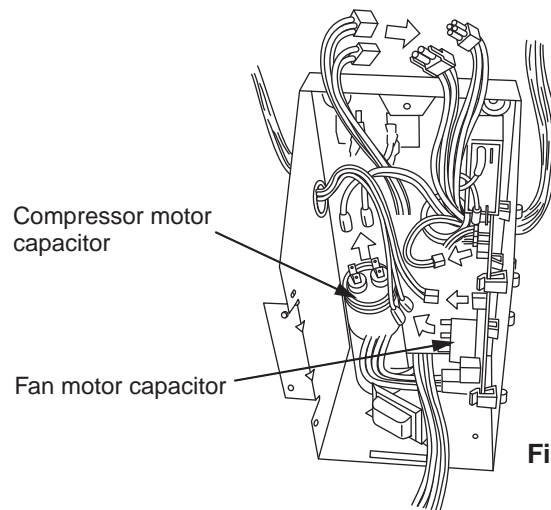

Fig. 6
(4) Disconnect the wiring connectors and lead wires connecting the following electrical parts in the electrical component box.(Fig. 6)